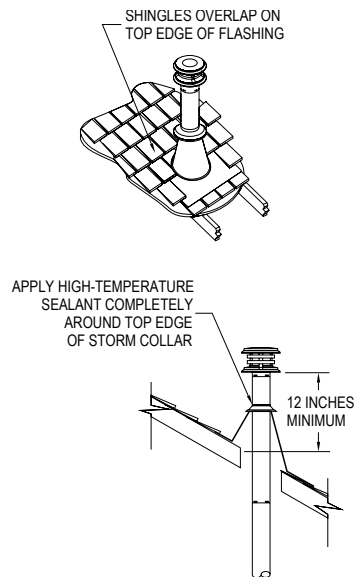

Figure 2
I. To finish, apply non-hardening waterproof sealant where the Storm Collar will meet the vent and Flashing; slide Storm Collar down until it sets on the Flashing, put the Cap on and twist to lock (Figure 2).